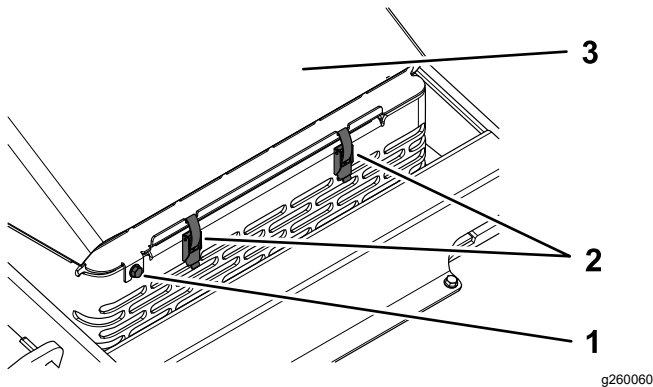

Figure 33
3. Loosen the hood-locking screw (Figure 33).
4. Hold the hood down and release the 2 latches (Figure 33).
5. Lift open the hood (Figure 33).
2. Tighten the hood-locking screw (Figure 33).